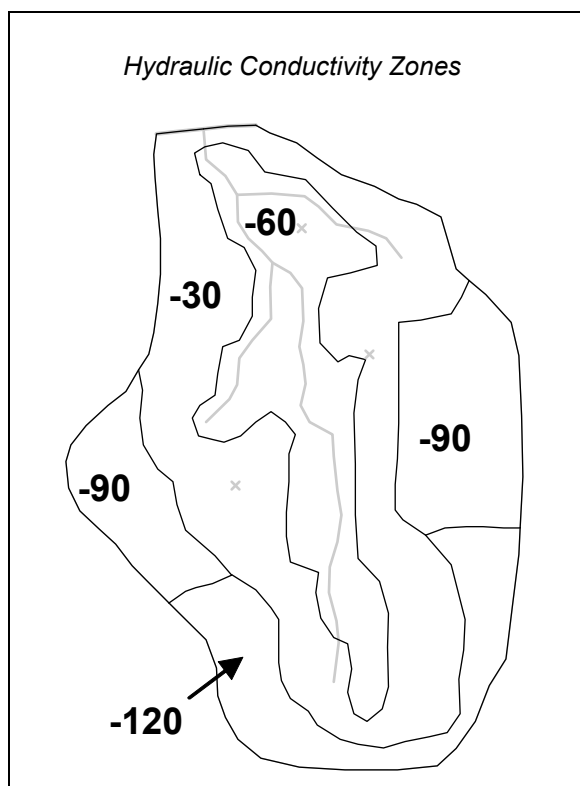

Figure 1. Hydraulic conductivity zones and parameter key values.
First we will set up the hydraulic conductivity zones. The hydraulic conductivity polygons are shown in Figure 1. The five polygons will be used to define four parameter zones. The key values associated with each of the four zones are shown on the polygons in the figure.
4. Double click on each of the polygons shown in Figure 1 and assign the appropriate key value to the *Horizontal K* input field.